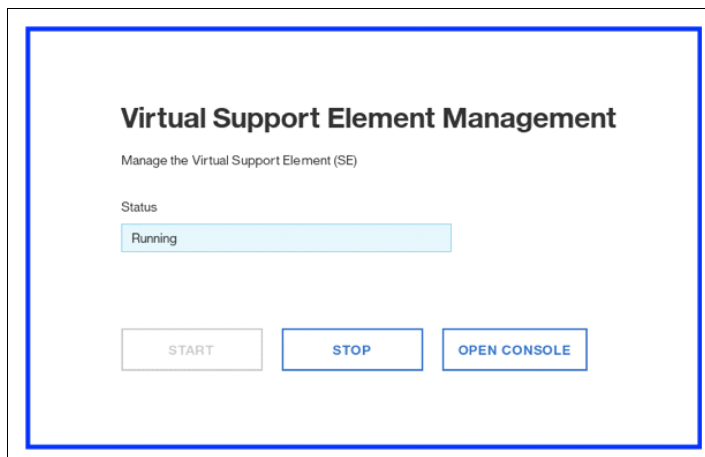

Figure 10-17 Local Virtual Support Element Management
- ▶ The KMM device is intended to be used by the IBM System Service Representative (SSR) only. In case the remote access to the HMC and SE is not possible, the client can use it as an emergency option. The SEs can be local / on-site managed by the Virtual Support Element Management task, as shown in Figure 10-17.